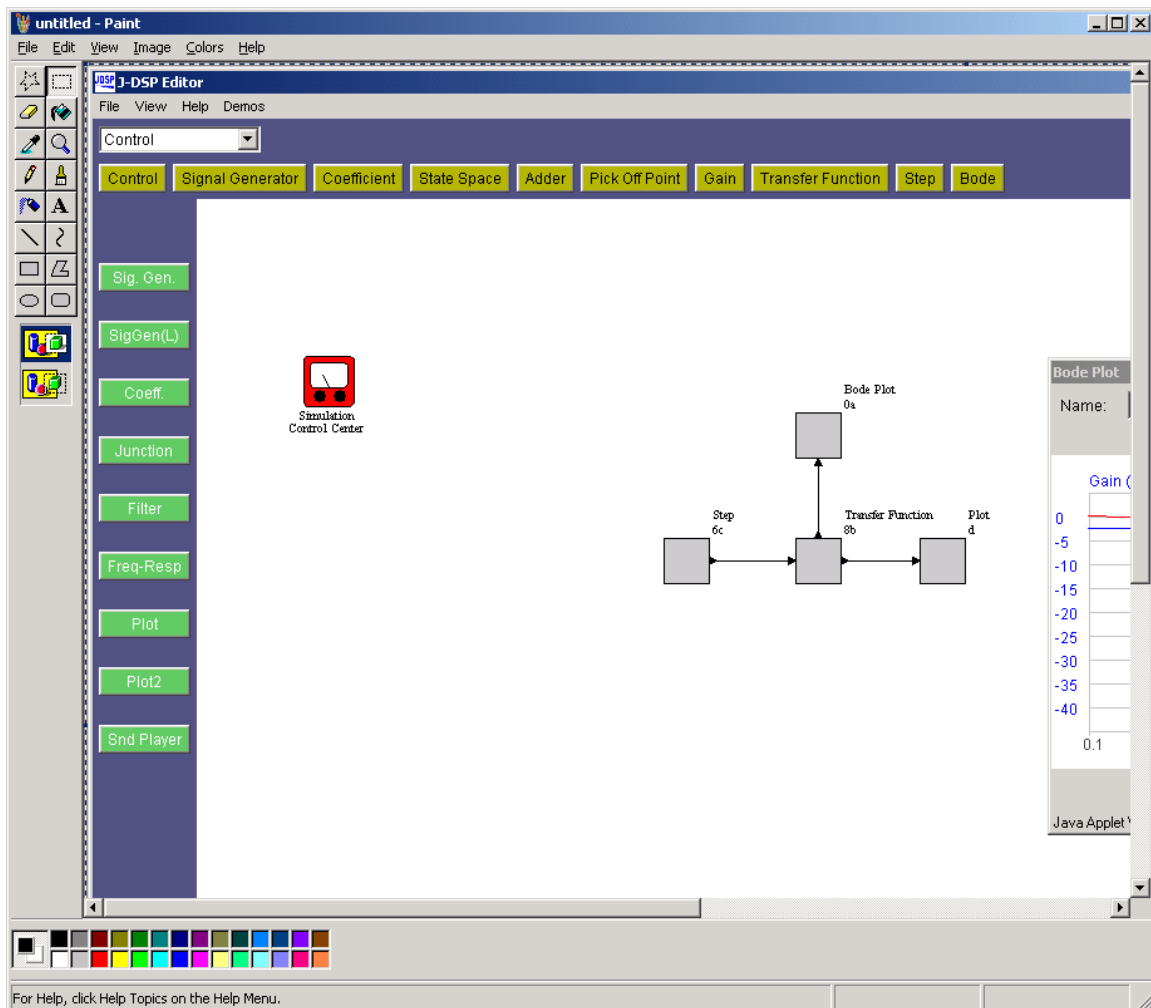

Figure 2: Using Paint to save a flowgram
- Step 4: In Paint, select Edit and then Paste (or press *Ctrl-V*). This will transfer the contents of the clipboard to the program as shown in figure 2: